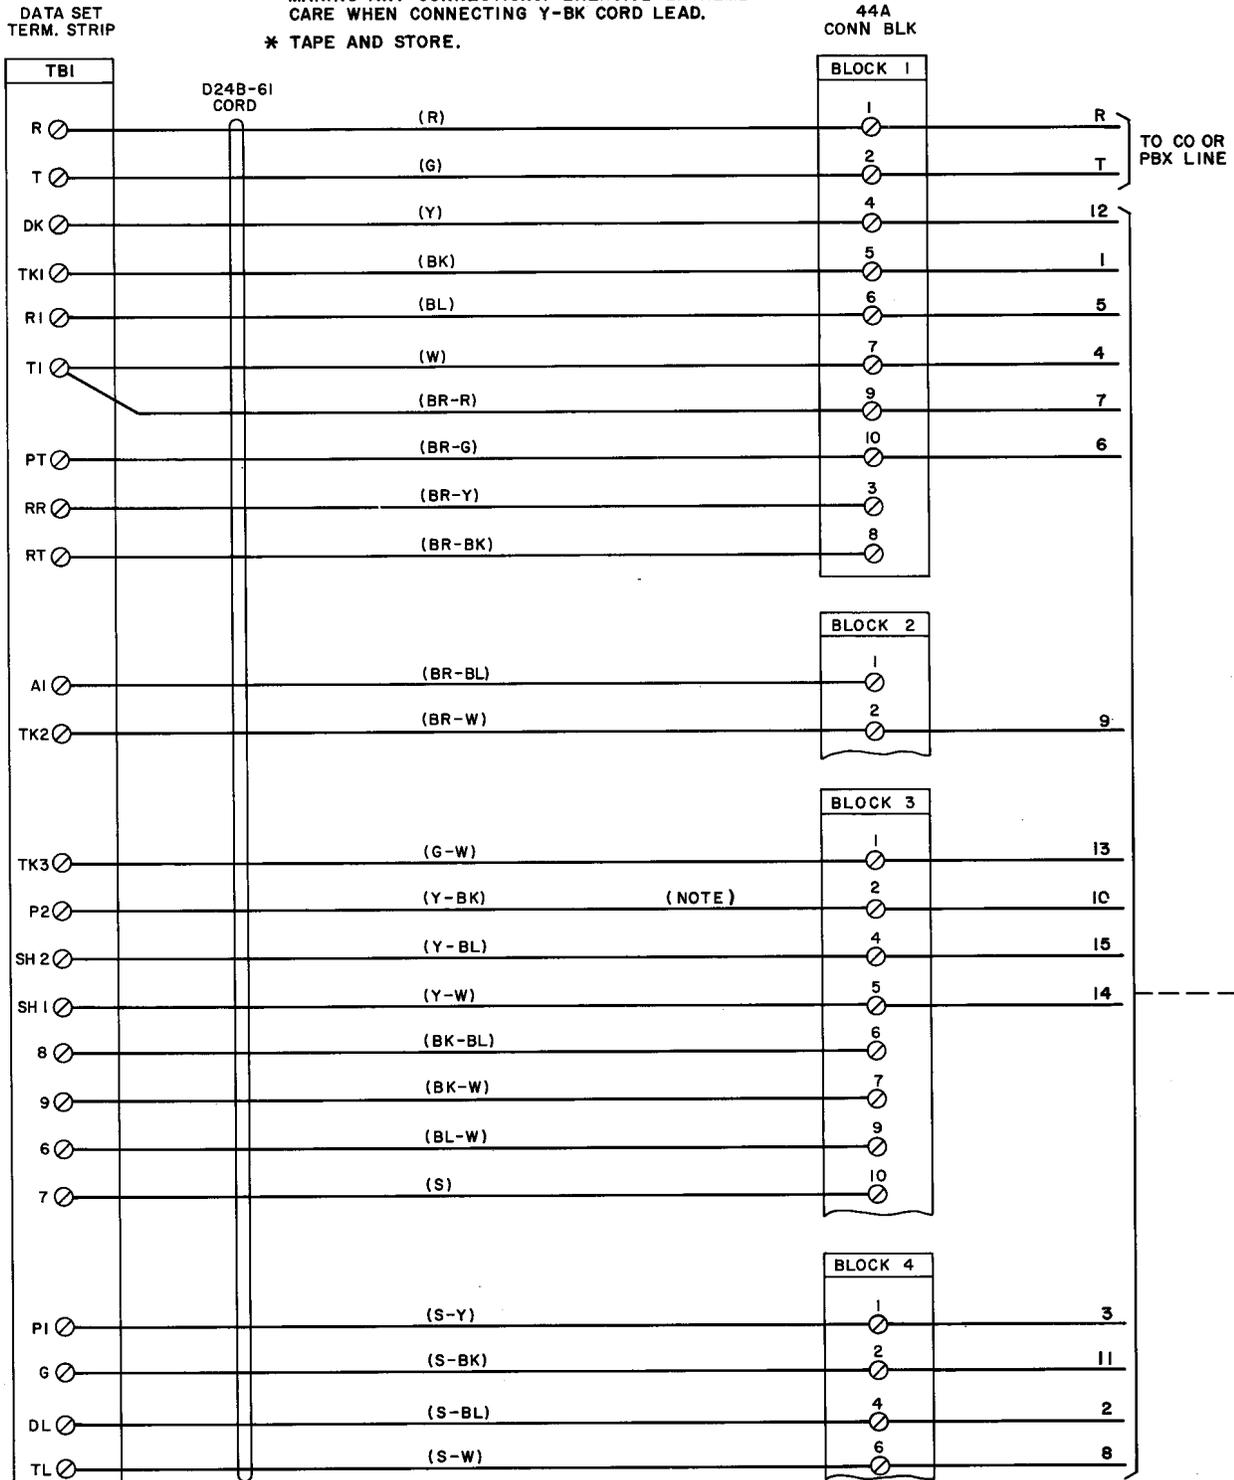
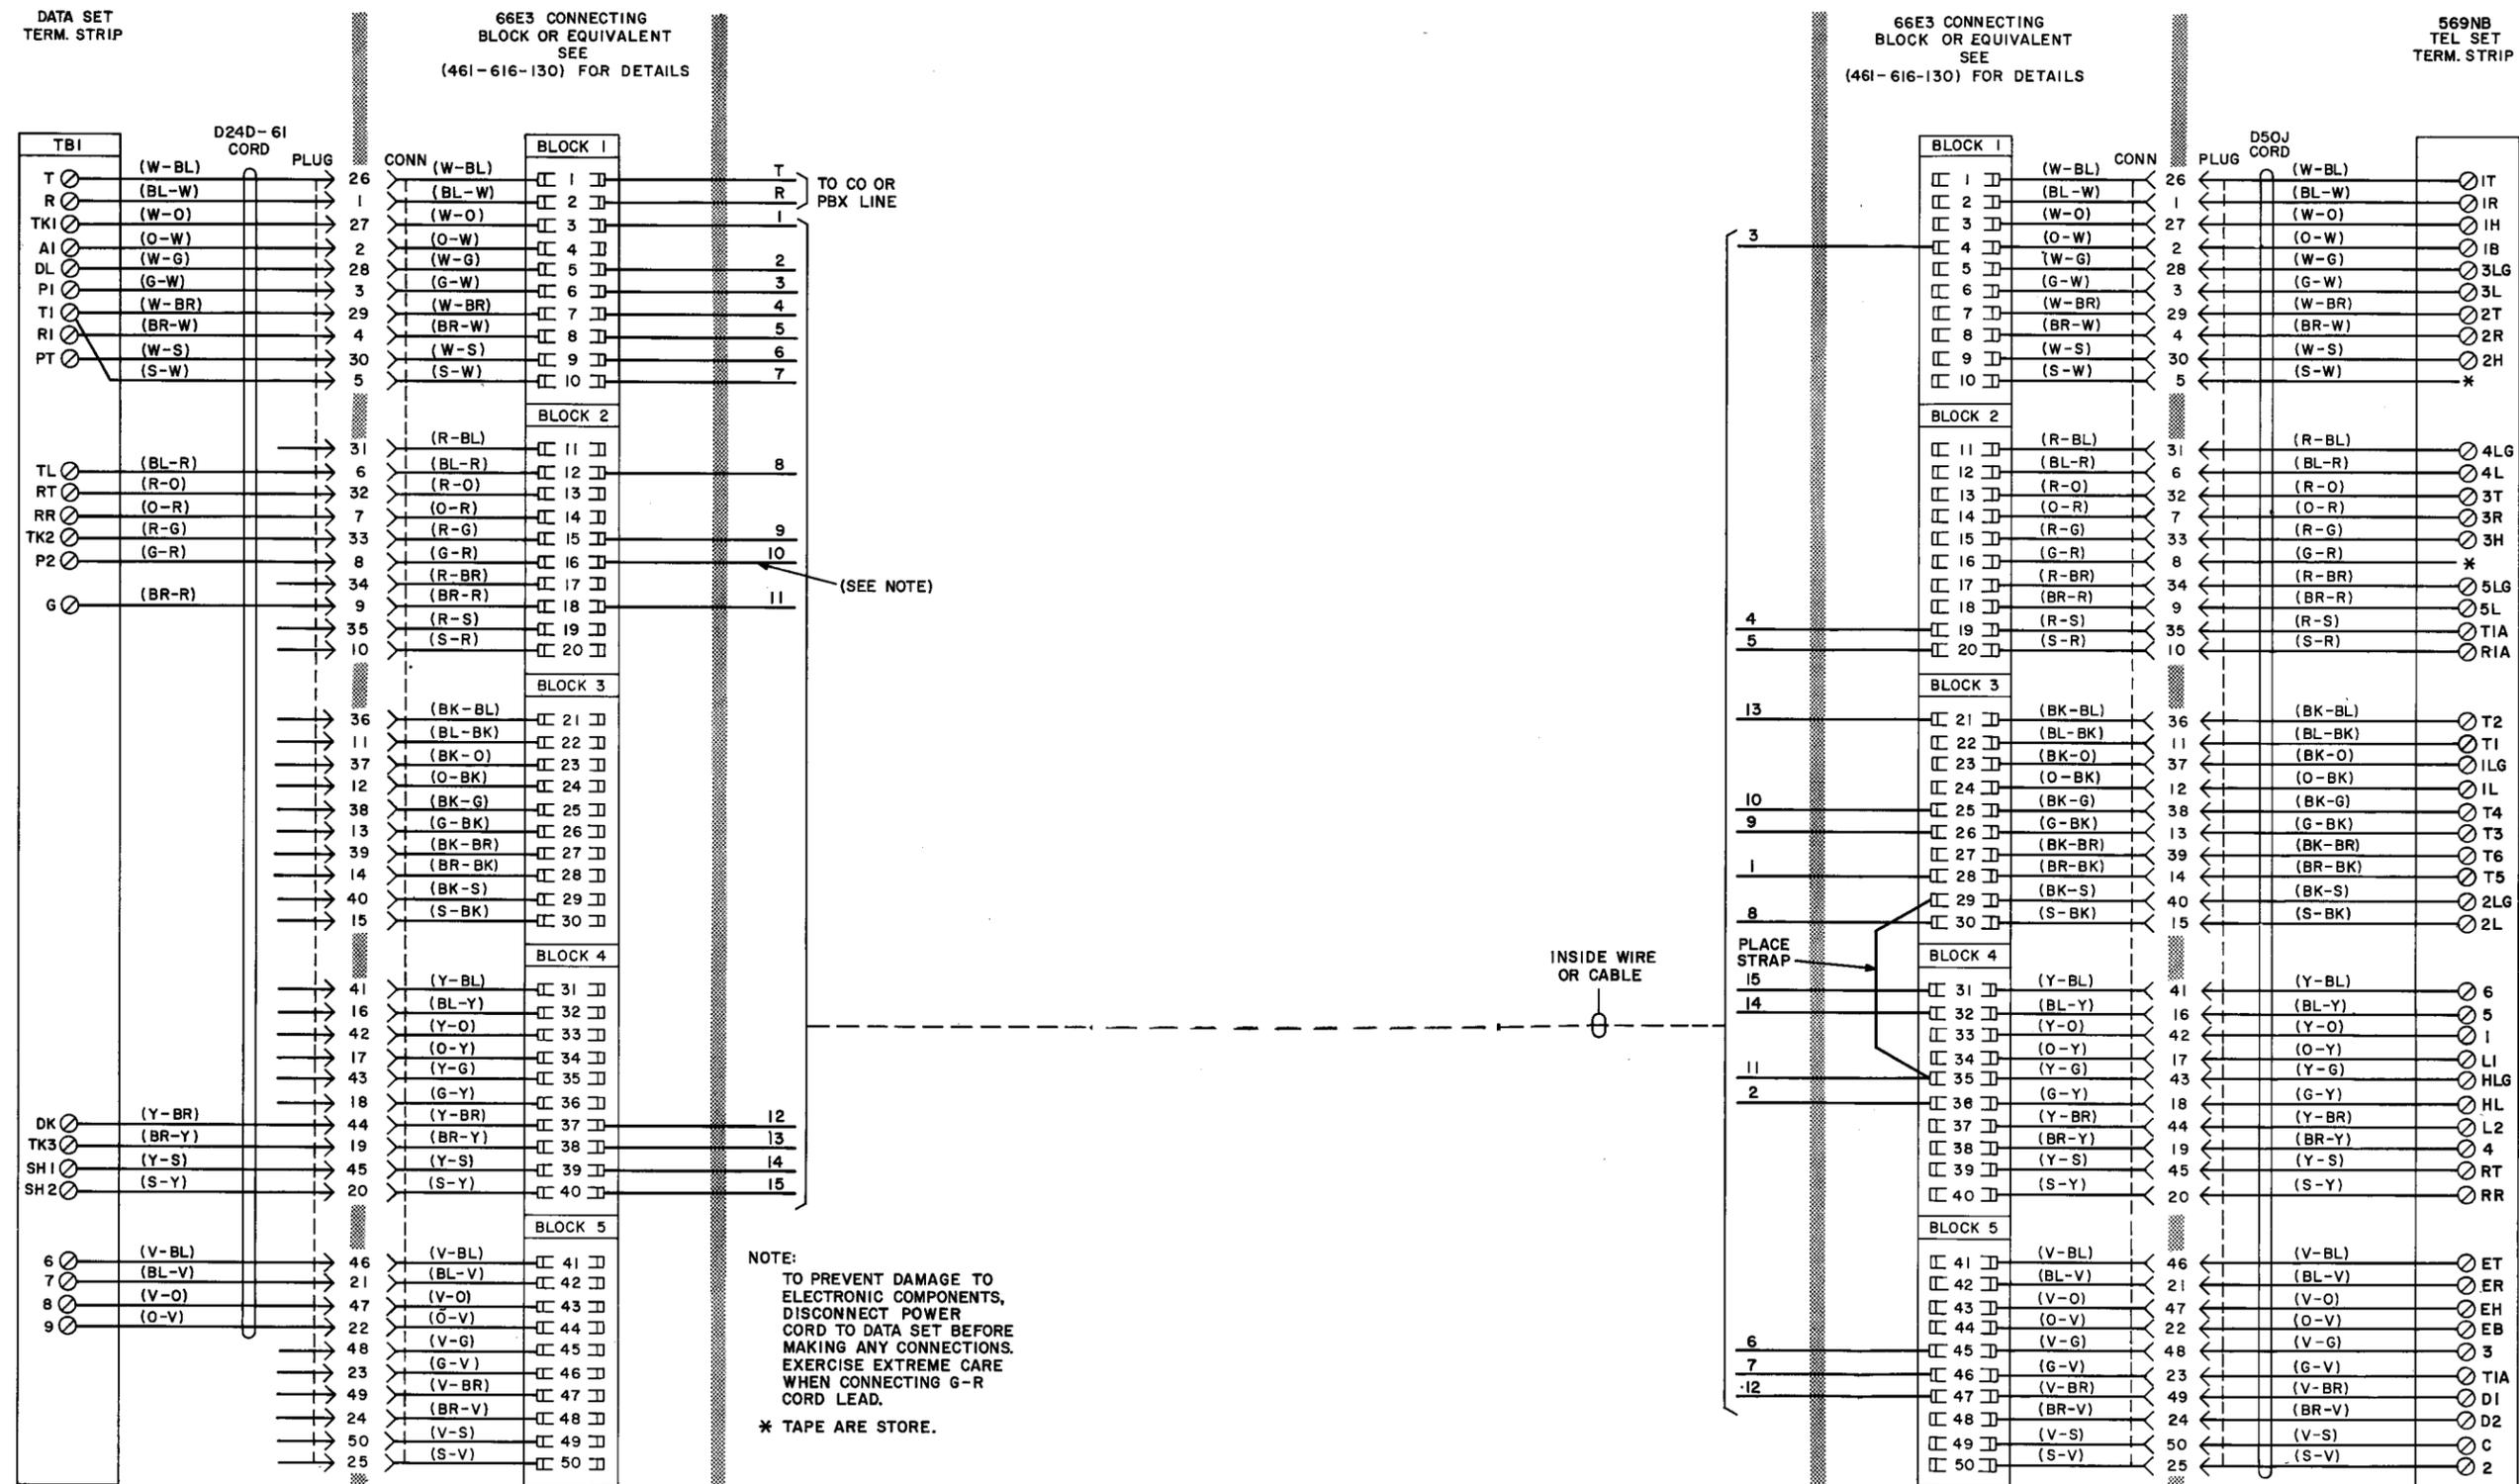

Fig. 4 — Data Set 202B Equipped With D24B-61 Cord For Fig. 5
Fig. 5 — Interconnections For Data Set 202B Equipped With D24D-61 Cord and 569NB Telephone Set, No Provision For Use With Key Telephone System
- (c) Fig. 4 — Data Set 202B Equipped with D24B-61 Cord (Overlay for Fig. 5).
- (d) Fig. 5 — Interconnections for Data Set 202B Equipped with D24D-61 Cord and 569NB Telephone Set, No Provision for Use With Key Telephone Set.